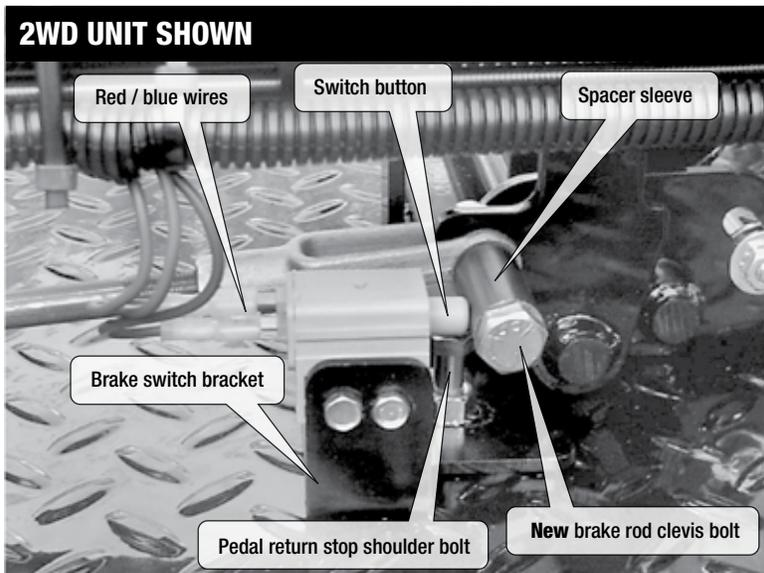
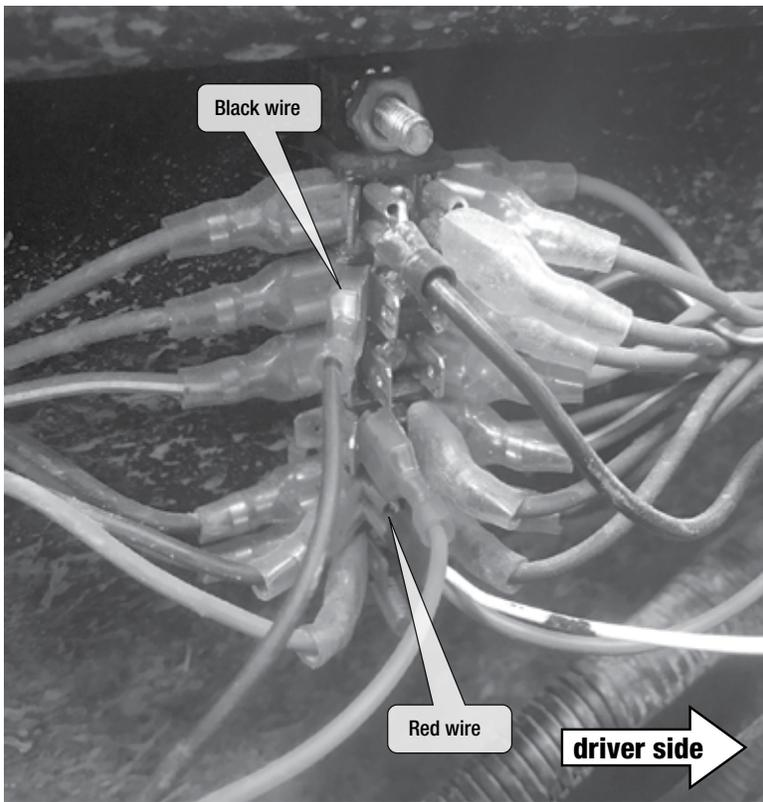

fig. 5
fig. 7
**7** Using two #10 x 3/4" screws and nuts, install the switch with a 3/8" wrench on the bracket and adjust so that the spacer sleeve pushes the switch button in when the pedal is released as shown in **figure 5**.
Run the provided tail light wire harness from the switch to the terminal block. Plug the red wire onto the fifth terminal from the top with the solid brown wires. Then, plug the black wire onto the terminal second row from the top with the green wires as shown in **figure 7**. Re-install the terminal block cover. Attach the red and blue wires to the switch as shown in figure 5 (wires can be attached in any order).
Place the spacer sleeve provided in the kit on the 3/8 x 2 1/2" bolt provided. Reconnect the brake rod using the new bolt with spacer sleeve so that the spacer is on the **right (passenger) side** (see **figure 5**). Tighten the 3/8 nylon lock nut onto brake rod clevis bolt using a 9/16" wrench until the end of the bolt is even with the top of the nut (The clevis should be free to rotate).